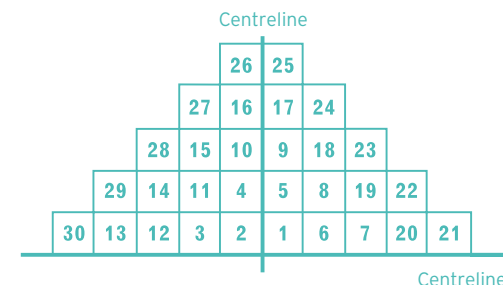

Figure 9 Pyramid layout
- ▶ Lay the first pyramid of tiles from the centrelines, using the sequence shown in Fig 9. Ensure a close bond is maintained at all times.
**NOTE** Construction of a pyramid should always start at the centre of the baseline, working in the same sequence as shown in Figure 9.